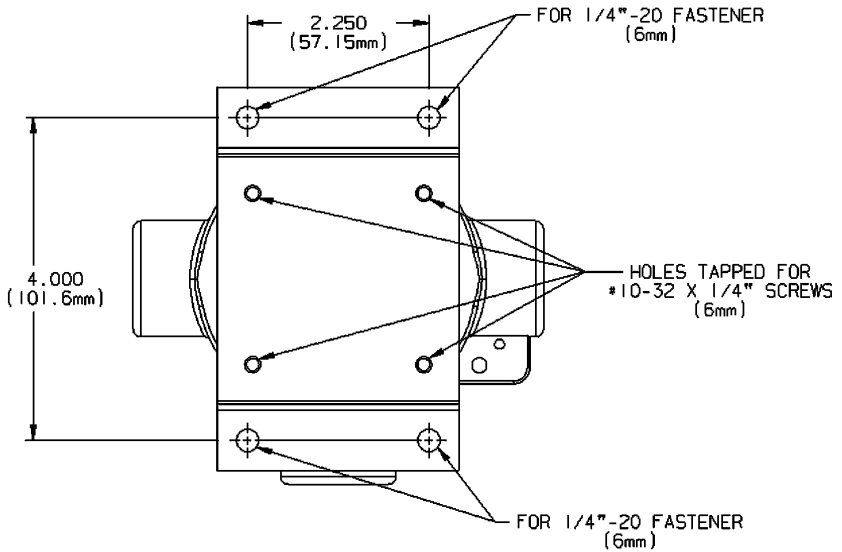

Fig. 7 Flameproof XIR Remote Sensor Model
- Use the optional mounting strap [P/N 10047562] that can be attached to the rear holes of the ULTIMA XL Gas Monitor [→ Fig. 7].